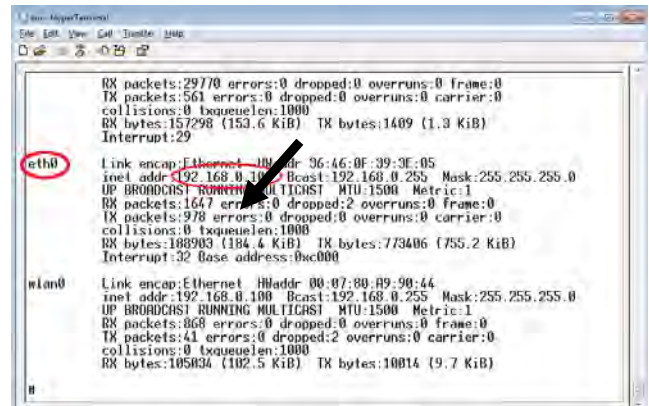

Figure 1
6. Scroll down to eth0 to locate the IP address (see Figure 1).